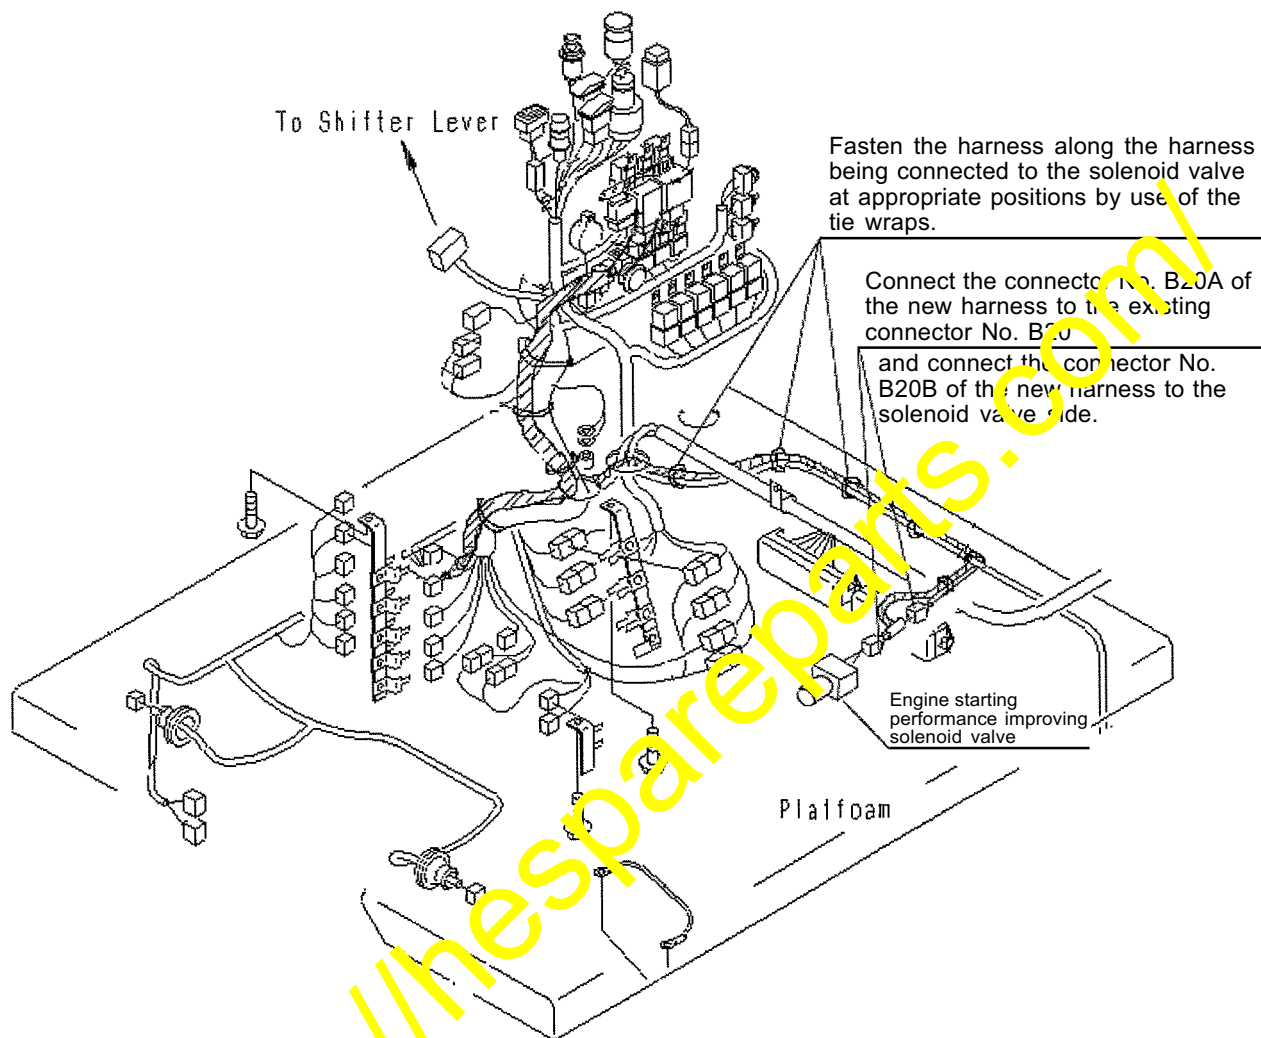

Fig. 8
- 8) Connecting the solenoid valve (Refer to Fig. 8.)